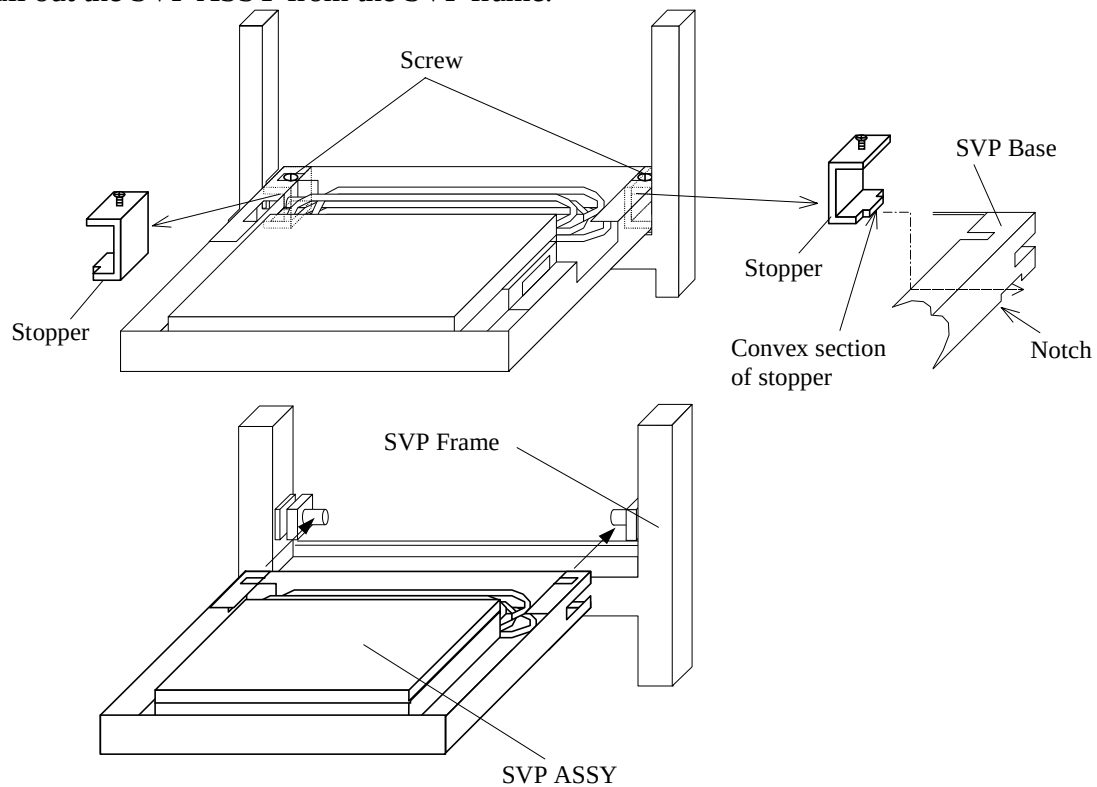

Fig. 4.12-12 Removing and installing the SVP Assy
- a. Install the SVP to the SVP ASSY and attach the SVP stoppers with screws. (See Fig. 4.12-12.)